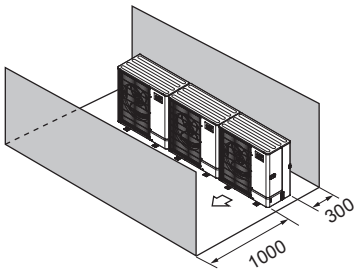

Fig. 1-31
- ④ Obstacles at front and rear only (Fig. 1-31)